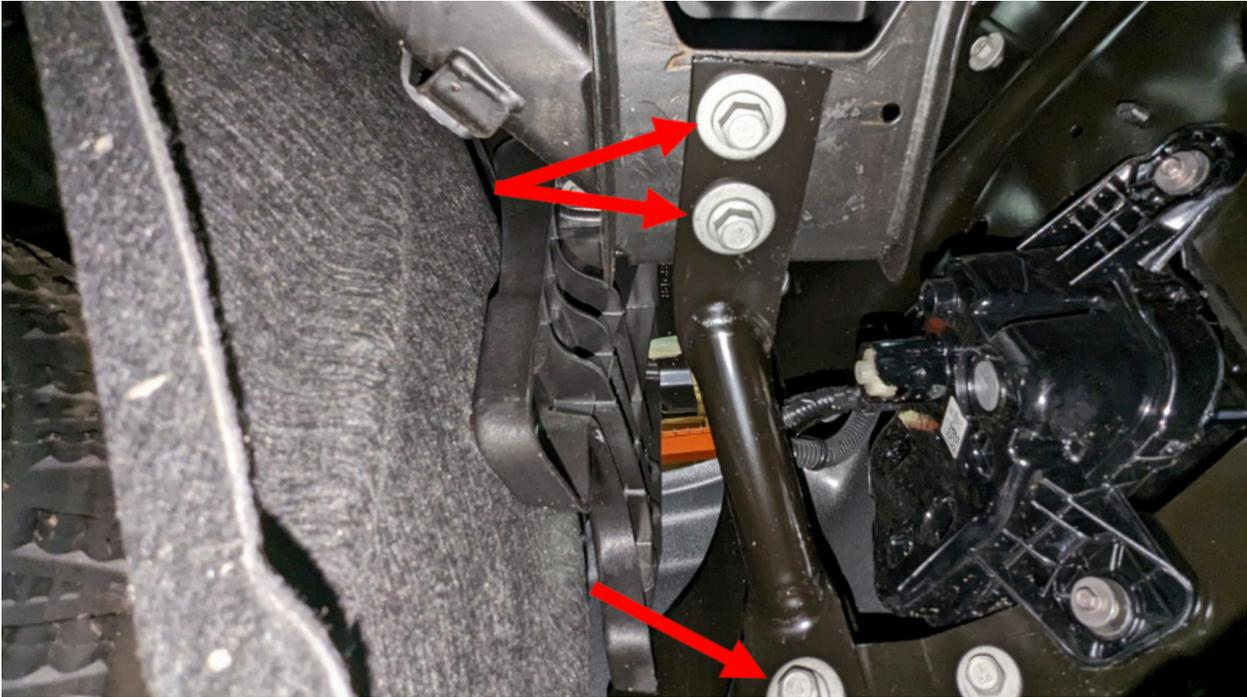

Figure 15
14. Using a 15mm socket wrench, remove the three (3) bolts per side holding the bumper supports to the frame and bumper. Figure 15